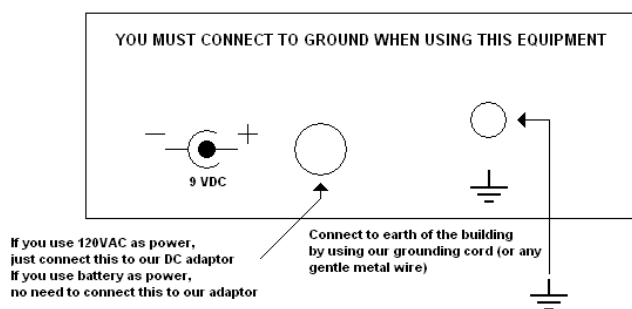

FIGURE 1.
1. Connect the Guardian™ CM-1700 to the earth/electrical (ground) of the building. This equipment comes with a grounding cord wire. One end of the ground wire is connected to the back of the CM-1700. The other end is connected to the earth/electrical ground. (FIGURE 1.). Test to see the earth ground is correct.
2. Connect the 9VDC power adaptor to the back of the CM-1700; the other end is connected to AC power supply (FIGURE 1.).